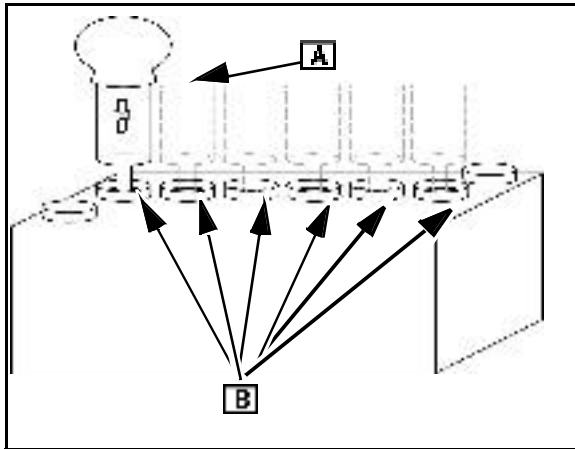

Fig. 36
8. With battery charged, check specific gravity readings of each cell (**B**) with a hydrometer (**A**) Fig. 36).